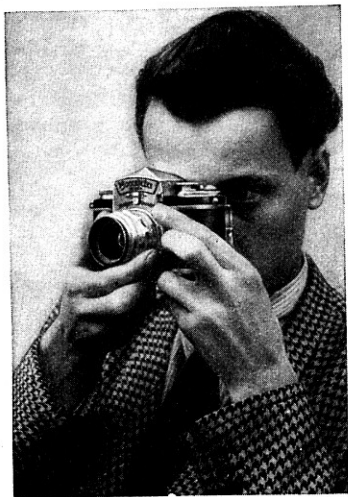

Fig. 26
The EXAKTA Varex is a two-system camera, in which the focussing systems are interchangeable, as the circumstances may require. The preceding Section E, describes how the Finder Hood can be removed and replaced by the Penta Prism (43) (Fig. 27). This Penta Prism (see also Fig. 1), the most important supplementary part of the EXAKTA Varex, is available separately as a camera accessory and is, above all, designed for sports shots, fast moving subjects, press-work, etc. With inserted prism-finder the camera is held at eye-level (Fig. 26) and the object to be photographed viewed directly through the finder. For horizontal pictures, you may also turn the camera upside down and press the back (40) against your forehead, as shown in Fig. 28 (advantage: in this position the camera can be held fast, and the higher optical level facilitates photographing over a crowd or other impediment. Whether vertical or horizontal, the Penta Prism always reveals an upright and laterally correct reflex image, true to nature in all details (Fig. 29). The image in the Penta Prism moves in the same direction as the object. Holding the camera at eye-level, you will easily be able to follow moving subjects. For maximum